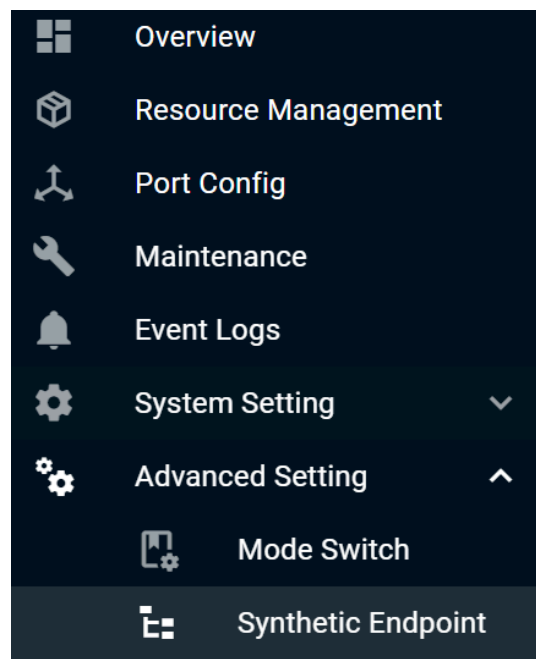

Figure 97. Accessing Synthetic Endpoint Configuration
- B. Navigate to Advanced Config > Synthetic Endpoint (refer to Figure 97).